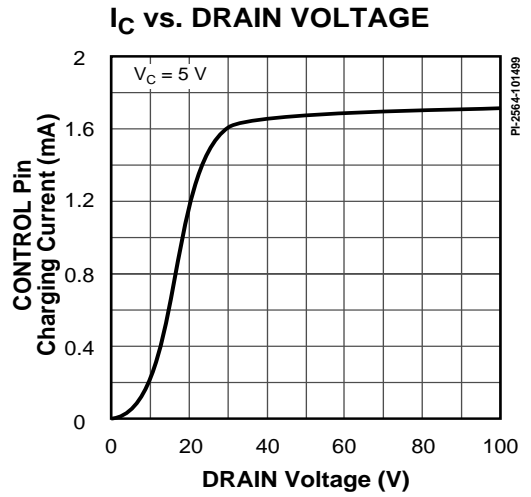

Figure 67.  $I_C$  vs. DRAIN Voltage.
- D. It is possible to start up and operate *TOPSwitch-GX* at DRAIN voltages well below 36 V. However, the CONTROL pin charging current is reduced, which affects start-up time, auto-restart frequency, and auto-restart duty cycle. Refer to Figure 67, the characteristic graph on CONTROL pin charge current (IC) vs. DRAIN voltage for low voltage operation characteristics.